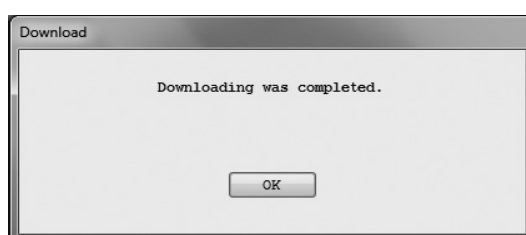

Fig.182
- ⑨ Once the download is complete, a message box (Fig. 182) will be displayed. Click the "OK" button.